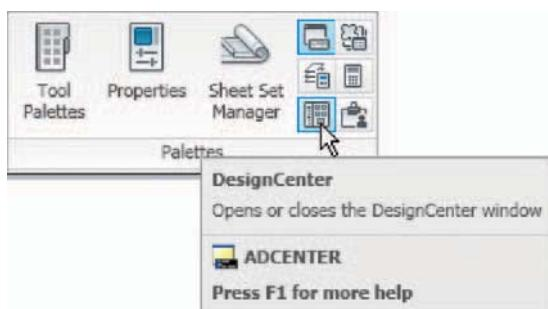
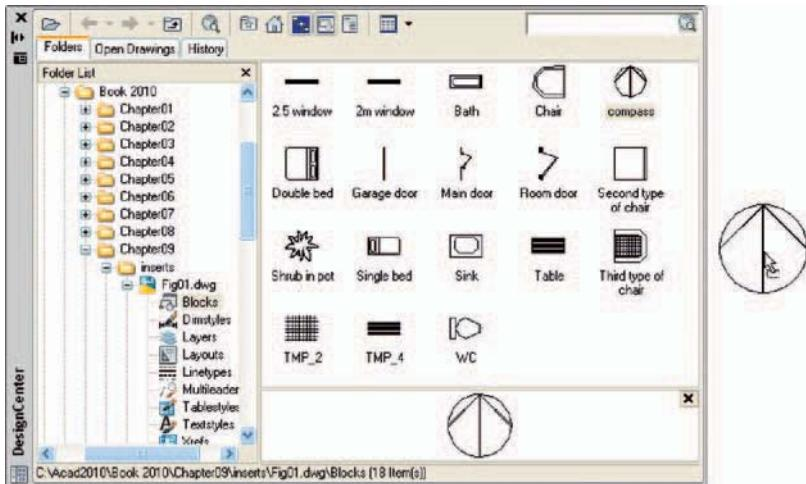

Fig. 9.9 Selecting **Design Center** from the **View/Palettes** panel
Fig. 9.10 The DesignCenter with the compass block *dragged* on screen
2. **Left-click Design Center** in the **View/Palettes** panel (Fig. 9.9) or press the **Ctrl + 2** keys. The **DesignCenter** palette appears on screen (Fig. 9.10).